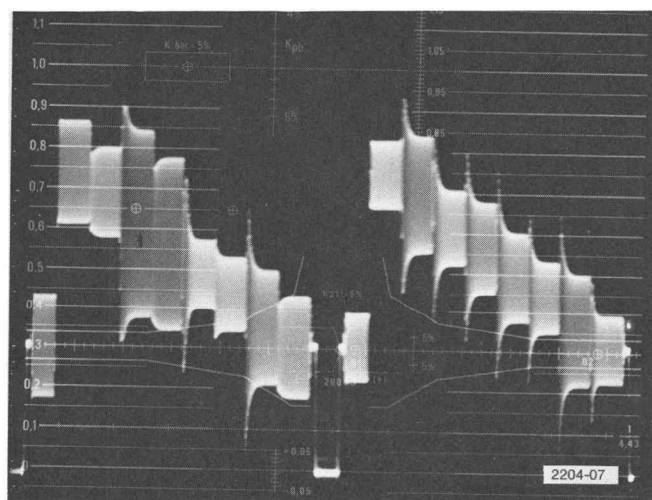

Fig. 1-7. 100% white with Variable Amplitude.
3. WHITE: Check the waveform monitor for a full amplitude pedestal for white (100%), see Fig. 1-7.